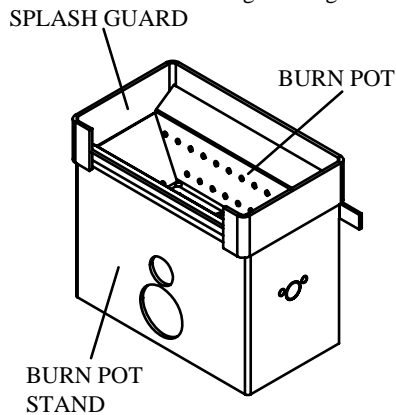

Figure 26. Burn pot stand assembly.
4. Remove the burn pot, burn pot stand and splash guard (Figure 26) and clean them thoroughly. Lift the burn pot and splash guard to remove. Lift up on the burn pot stand and pull towards you to remove. Make sure there are no ashes remaining in the burn pot stand and that all the holes in the burn pot are clear. Failure to do so can be a fire hazard. Place all ashes into a metal container with a tight fitting lid.